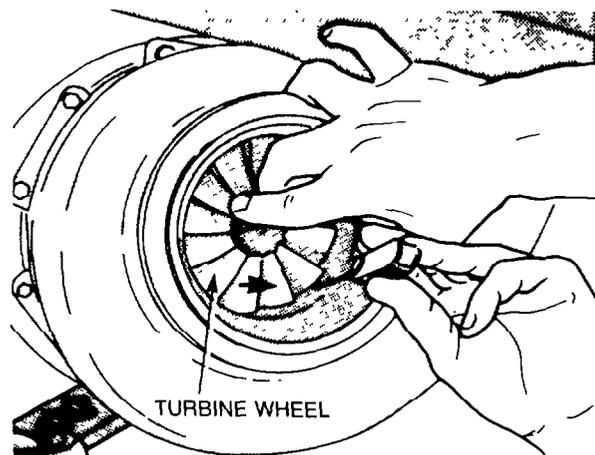

Figure 154 — Measuring Turbine Wheel to Turbine Housing Clearance
- q. Push the turbine wheel (item 2) toward the turbine housing (item 1), then using a set of feeler gauges measure the clearance between the turbine wheel and the turbine housing (see Fig. 154). The standard clearance is 0.25-0.51 mm (0.010-0.021 in.). The minimum allowable clearance is 0.20 mm (0.008 in.).